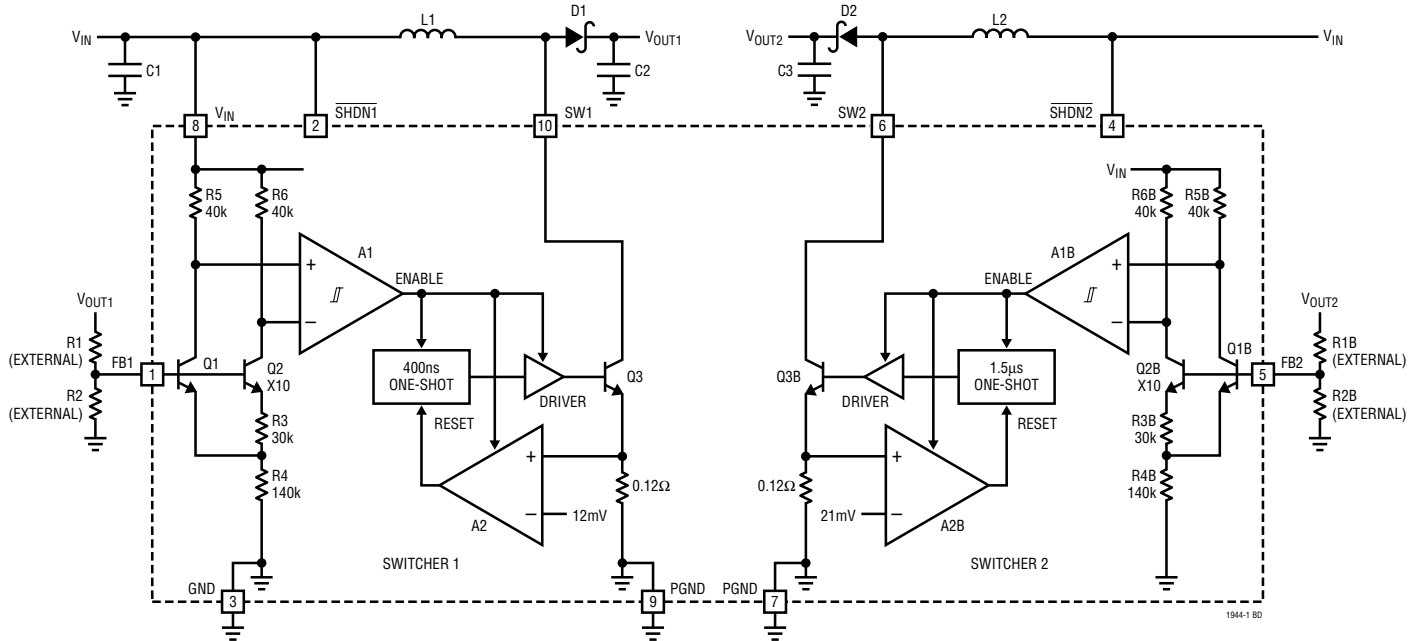

Figure 1. LT1944-1 Block Diagram
**Note 4:** See Figure 1 for Switcher 1 and Switcher 2 locations.
The LT1944-1 uses a constant off-time control scheme to provide high efficiencies over a wide range of output current. Operation can be best understood by referring to the block diagram in Figure 1. Q1 and Q2 along with R3 and R4 form a bandgap reference used to regulate the output voltage. When the voltage at the FB1 pin is slightly above 1.23V, comparator A1 disables most of the internal circuitry. Output current is then provided by capacitor C2, which slowly discharges until the voltage at the FB1 pin drops below the lower hysteresis point of A1 (typical hysteresis at the FB pin is 8mV). A1 then enables the internal circuitry, turns on power switch Q3, and the current in inductor L1 begins ramping up. Once the switch current reaches 100mA, comparator A2 resets the one-shot, which turns off Q3 for 400ns. L1 then delivers current to the output through diode D1 as the inductor current ramps down. Q3 turns on again and the inductor
Set the output voltage for each switching regulator by choosing the appropriate values for feedback resistors R1 and R2 (see Figure 1).